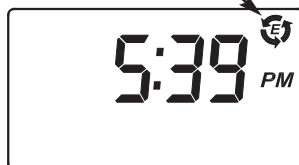

FIG. 25
3. Press the SELECT button three times, to return to the normal run display (See Figure 25).